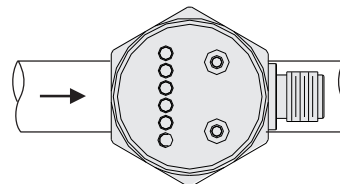

Fig. 4
5. Screw tightly to avoid. Can be installed from various angles. For best sensitivity and response speed, please install using in the demonstrated in Fig. 4